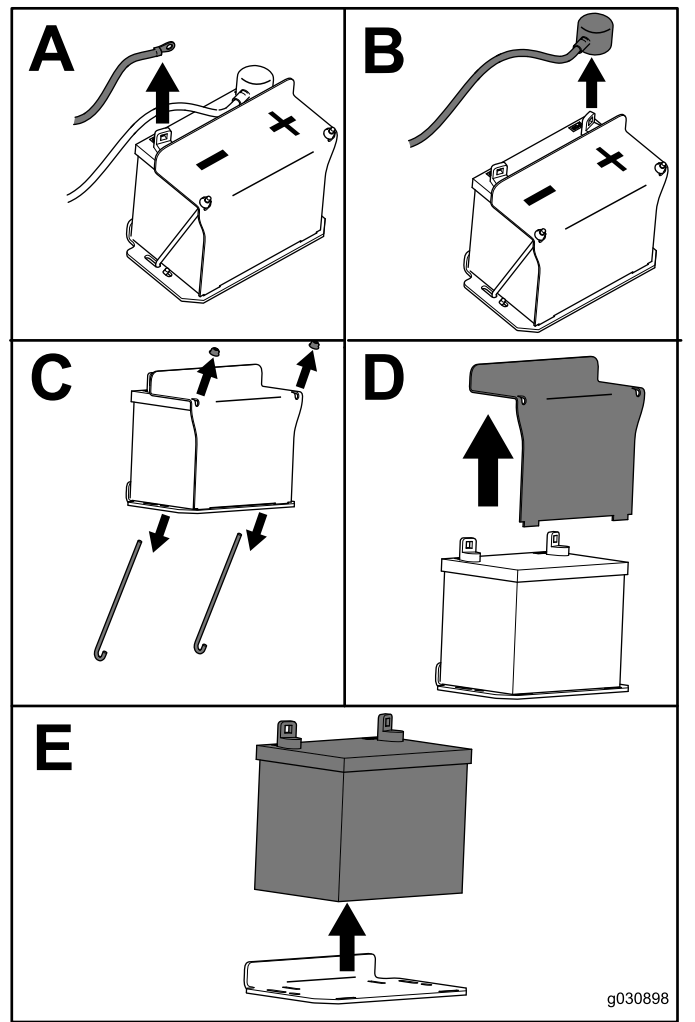

Figure 25
3. Remove the battery as shown in Figure 25.